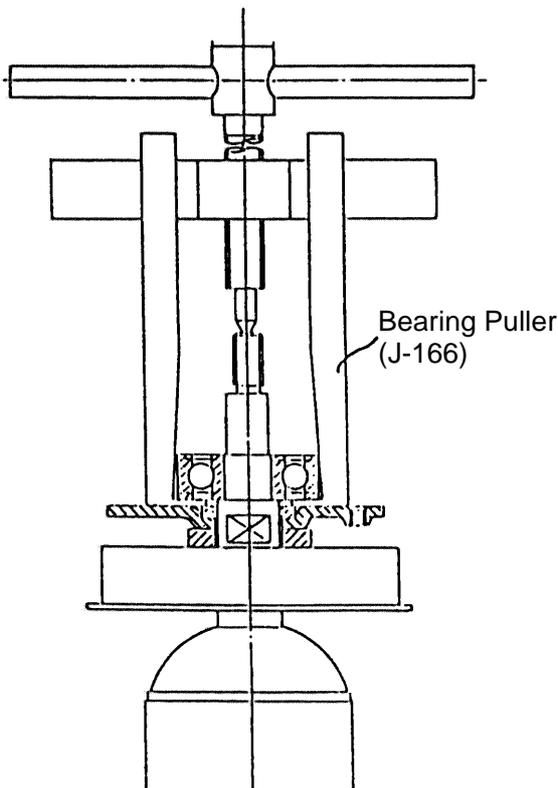

Fig. 1
- (1) Loosen the M8 x 22 Bolt (s) ③⑩ (one piece or two pieces: depending on the shape of the Wheel Guard mounted.), and remove the Wheel Guard Ass'y ③①. Then, remove the two Brush Caps ④⑨ and take out the Carbon Brushes ⑤⑩.
- (2) Remove the four D5 x 35 Tapping Screws ③. The Armature Ass'y ①⑥ can then be taken out simultaneously with the Gear Cover Ass'y ⑥, Packing Gland ②⑧, and related parts.
- (3) Remove the four M5 x 16 Hexagon Socket Hd. Bolts ②⑨. The Packing Gland ②⑧ can then be taken out together with the Spindle ②⑤ and Gear ②⑩.
- (4) After removing the three M5 x 14 Machine Screws ①, the Armature ①⑥ can be extracted together with the Bearing Cover ①④, and related parts.
- (5) Carefully wrap the Armature Ass'y ①⑥ with a soft, clean rag to protect it from being damaged, and clamp it securely in a vise. Then, remove the M8 U-Nut ⑦, and extract the Pinion ⑧ and the Key ①⑤.
- (6) For the models indicated under Fig. 1, the Ball Bearing ①① can be removed from the Armature ①⑥ by utilizing a J-166 Bearing Puller (special repair tool) as illustrated. After the Ball Bearing has been removed, the Bearing Cover ①④ can be easily taken off.